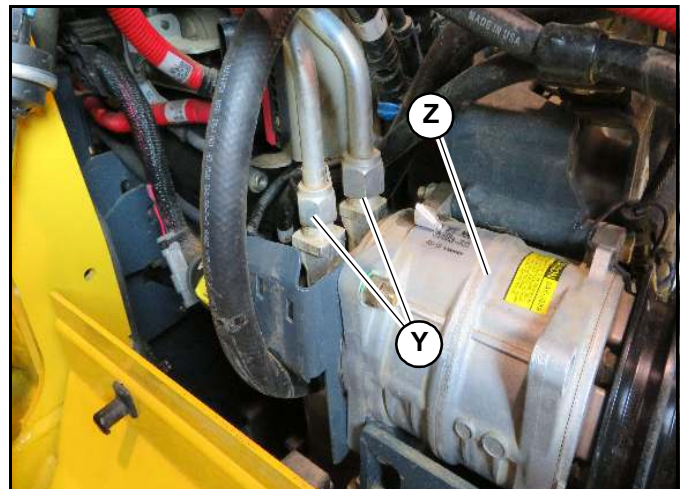

Fig. 52 – A/C Lines at Compressor
33. Disconnect the two A/C lines (Y, Fig. 52) at the compressor (Z). Close all openings using caps and plugs.